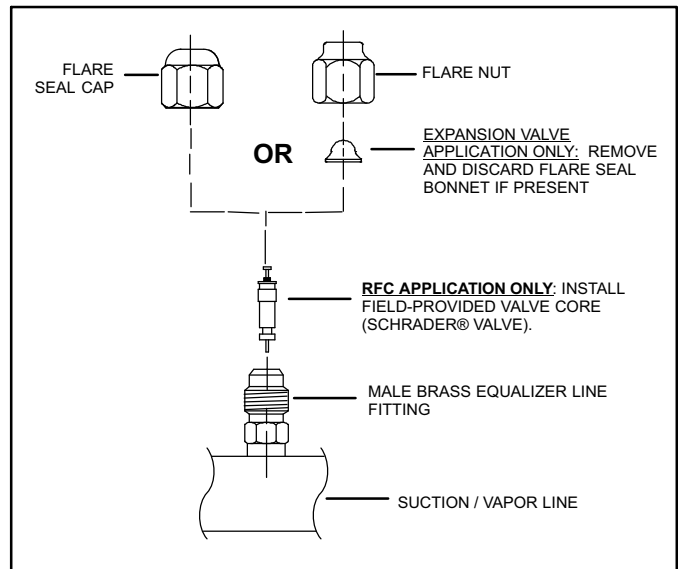

Figure 7. Male Equalizer Line Fitting Modifications
1. **Expansion Valve Applications:** Remove the copper flare seat bonnet if present from the male equalizer line fitting (see figure 7).